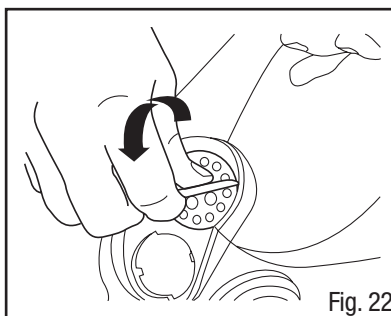

Fig. 22
4. Remove speaking diaphragm assembly by turning counter clockwise 1/4 turn (Fig. 22).
4. Remove speaking diaphragm by turning counter clockwise 1/4 turn (Fig. 22).